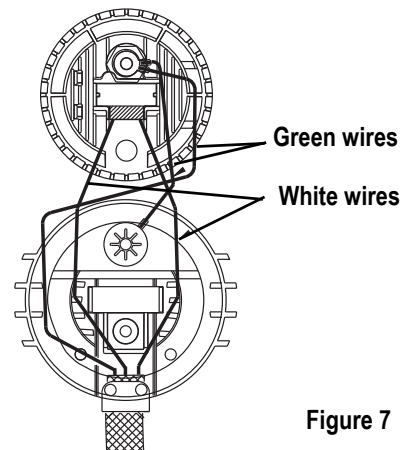

Figure 7
Step 13: Lay the leads in the bottom half of the cable clamp (located in the housing socket casting [7]), making sure that the fiberglass sleeving extends slightly past the screw holes in the housing socket casting. Install new sleeving if necessary. Then, route the wires as shown in Figure 7.
Step 18: Before proceeding, check again to make sure the wires are still positioned as indicated in Figure 7. Adjust if necessary.